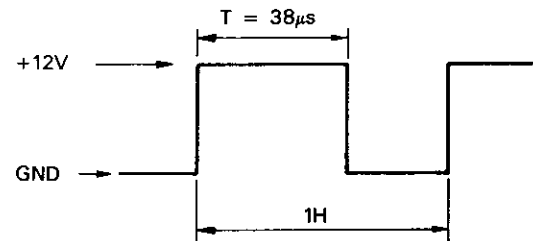

Fig. 65
- ① Connect the oscilloscope probe to TP38.
- ② Adjust the T-period in Figure 65 so that it becomes 38μs using VR104.